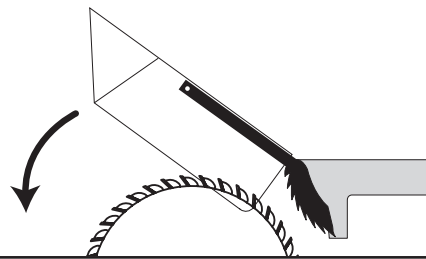

Figure 55. Typical ripping operation.
9. Use a push stick to feed workpiece through saw blade, as shown in **Figure 55**, until workpiece is completely beyond saw blade.